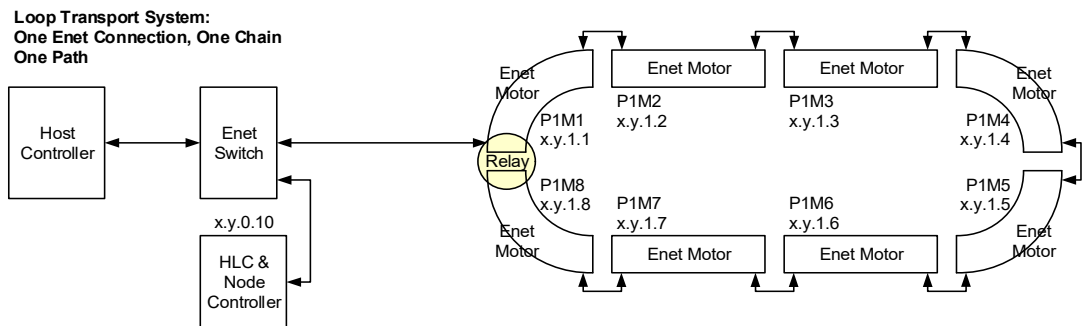

Figure 3-1: Ethernet Motor Wiring Example
- Recommended Ethernet addressing scheme (see Figure 3-1):